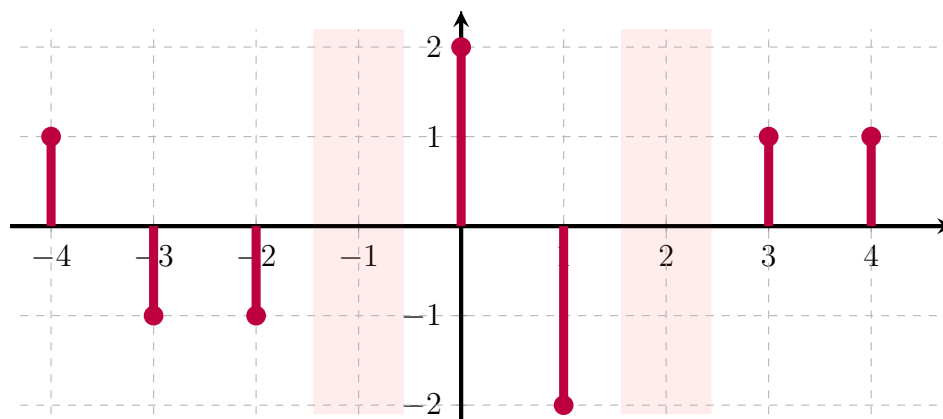

Figure 11: Linear cross-correlation plot of the two signals $\text{Corr}_{\vec{s}_1}(\vec{s}_2)$. The x-axis represents the shift.
- (a) We have two signatures/gold codes of length-5, given by \vec{s}_1 and \vec{s}_2 as in Figure 11. So far we have numerically computed their linear cross-correlation $\text{Corr}_{\vec{s}_1}(\vec{s}_2)$, yet a few entries have been tragically lost! Fortunately we can compute these omitted terms by hand. **Please compute the missing cross-correlation values at shifts $k = -1$ and $k = +2$. Show your work and justify your answer.**